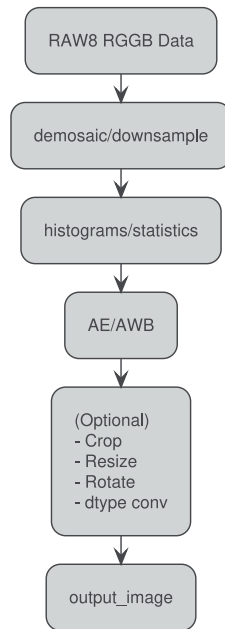

Fig. 2: ISP Pipeline Diagram
The image processing pipeline consists of several stages, including demosaicing, down-sampling, image scaling and cropping, image rotation, Auto Exposure (AE), and Auto White Balance (AWB). Each stage is implemented as a separate function in the library, allowing for easy customisation and extension. Fig. 2 illustrates the image processing pipeline: